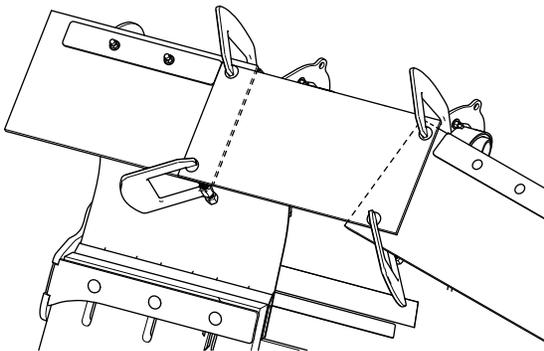

Figure 15
8. Clamp the center belting pieces in place (Figure 15) after aligning them as follows: